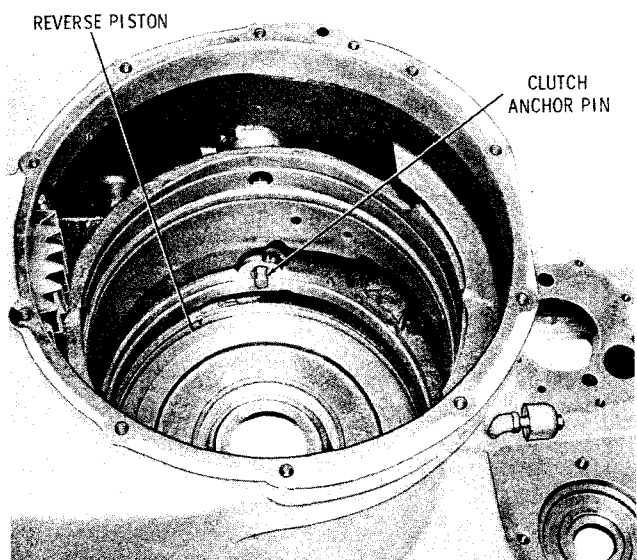

Fig. 5-33. Reverse clutch piston and clutch anchor pin
(3) Remove the bolt and lock-washer which were temporarily installed in the control valve mounting pad to retain the clutch anchor pin and plug (fig. 5-7). Remove the anchor pin and plug, and remove the reverse piston (fig. 5-33). Refer to paragraph 6-11 for piston rebuild.